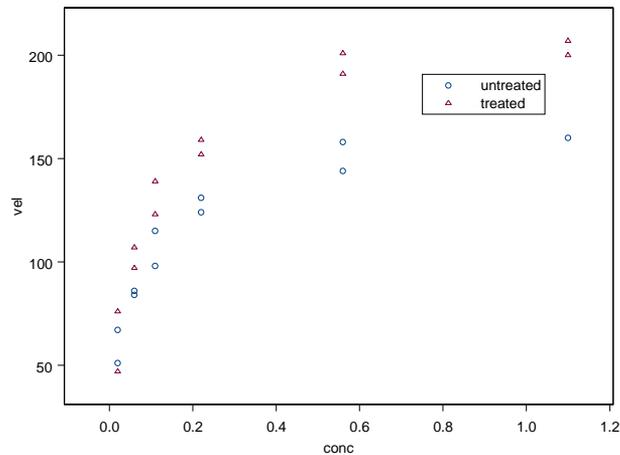

Figure 6.43: *Scatter plot of the Puromycin data.*
The data set `Puromycin` has 23 rows representing the measurement of initial velocity of a biochemical reaction for 6 different concentrations of substrate and two different cell treatments. Figure 6.43 plots velocity versus concentration with different symbols for the two treatment groups (treated and untreated).
In order to fit a nonlinear regression model, we must specify the form of the nonlinear model, the name of the data set, and starting values for the parameter estimates. Examination of Figure 6.43 suggests starting values of $V=200$ and $K=0.1$, treating all observations as a single group. We fit a Michaelis-Menten relationship between velocity and concentration as follows:
4. Figure 6.43 suggests starting values of $V_m=160$ and $delV=40$, while the previous model suggests $K=0.05$. Type the starting values $V_m=160$, $delV=40$, $K=0.05$ into the **Parameters** field.